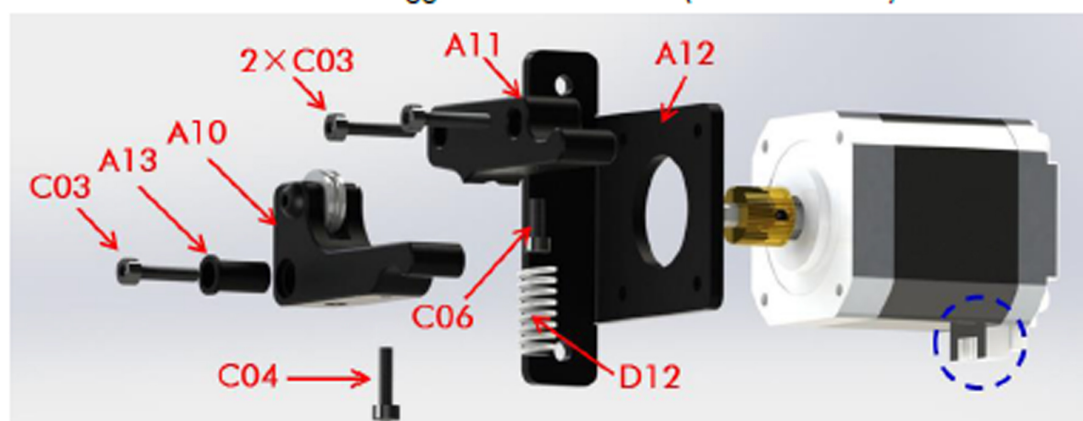

Fig. 23
Step 2. The assembly details (from right to left) of the extruder are shown in Fig. 23. The socket of the extrusion motor is suggested to face down (blue dash circle).